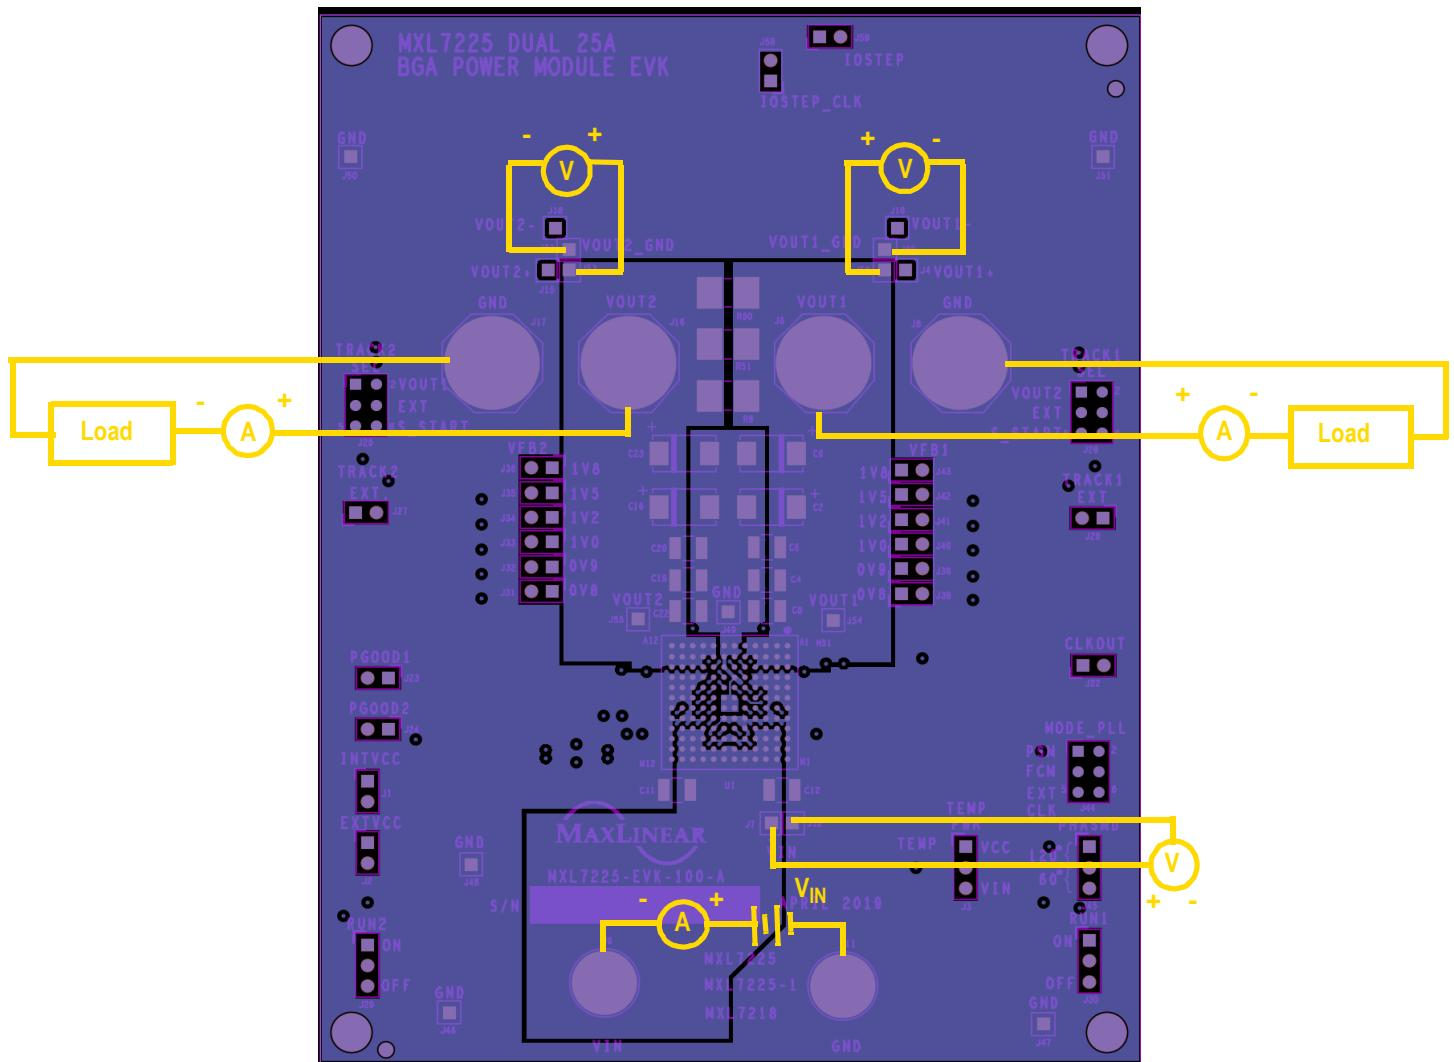

Figure 1: Monitoring V_{IN} and V_{OUT}
2. Connect a turned-off power supply that is within a V_{IN} specification of 4.5V to 15V, (12V typical) to V_{IN} and GND with short, thick leads. Use test pins V_{IN+} and V_{IN-} to monitor V_{IN} and GND respectively. See locations in Figure 1.
3. For the channel 1 output, connect an electronic load initially set to 0A, that will be no more than the above maximum I_{OUT} (25A), to V_{OUT1} and GND with short / thick leads. Use test pins V_{OUT1} (J52) and V_{OUT1_GND} (J60) to monitor V_{OUT1} and GND respectively. See locations in Figure 1.
4. For the channel 2 output, connect an electronic load initially set to 0A, that will be no more than the above maximum I_{OUT} (25A), to V_{OUT2} and GND with short, thick leads. Use test pins V_{OUT2} (J53) and V_{OUT2_GND} (J61) to monitor V_{OUT2} and GND respectively. See locations in Figure 1.